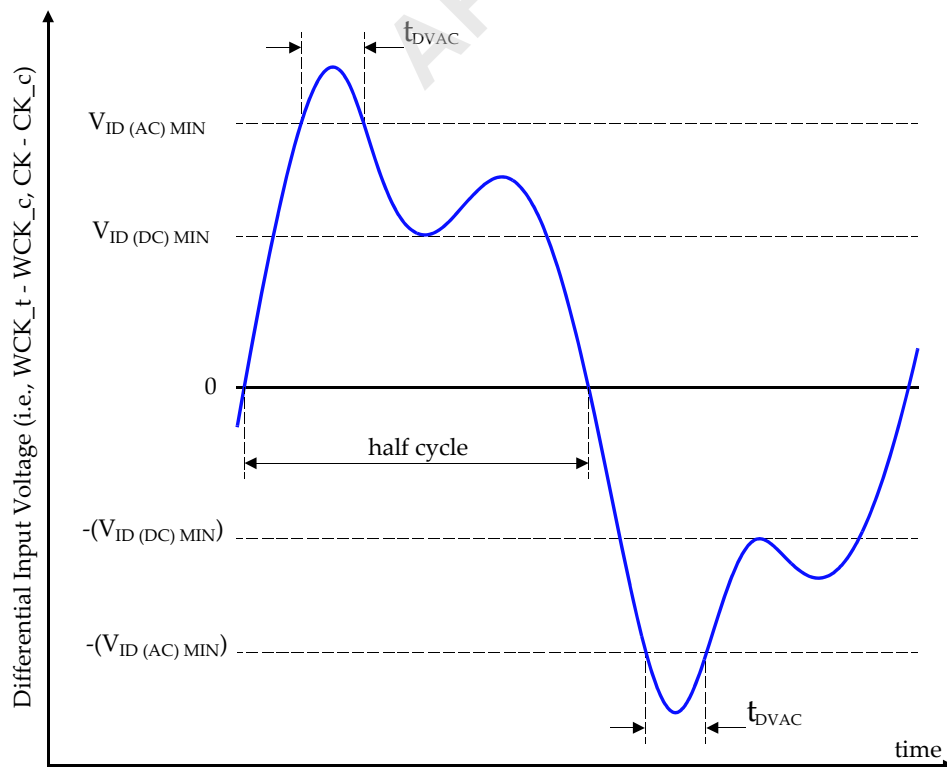

Figure 89 — Definition of differential ac-swing and "time above ac-level" t_{DVAC}
NOTE 11 Figure 89 illustrates the exact relationship between (CK_t-CK_c) or (WCK_t-WCK_c) and VID(AC), VID(DC) and t_{DVAC}